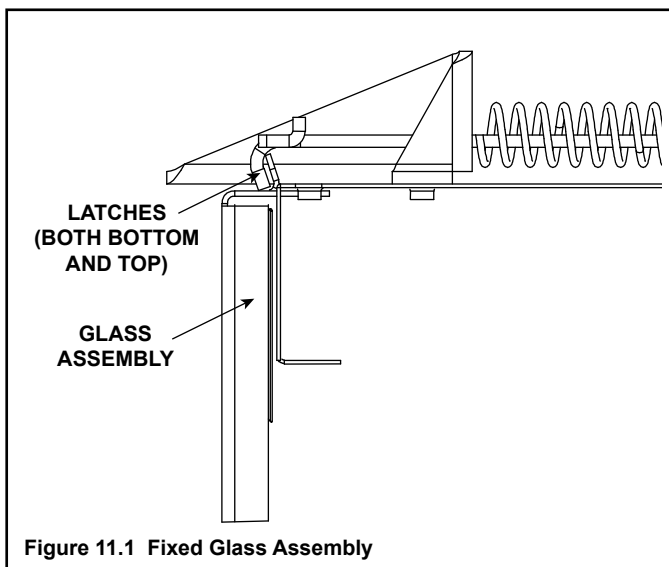

Figure 11.1 Fixed Glass Assembly
- Pull the four glass assembly latches out of the groove on the glass frame. Remove glass assembly from the appliance See Figure 11.1.
- Replace the glass assembly on the appliance. Pull out and latch the four glass assembly latches into the groove on the glass frame. See Figure 11.1.